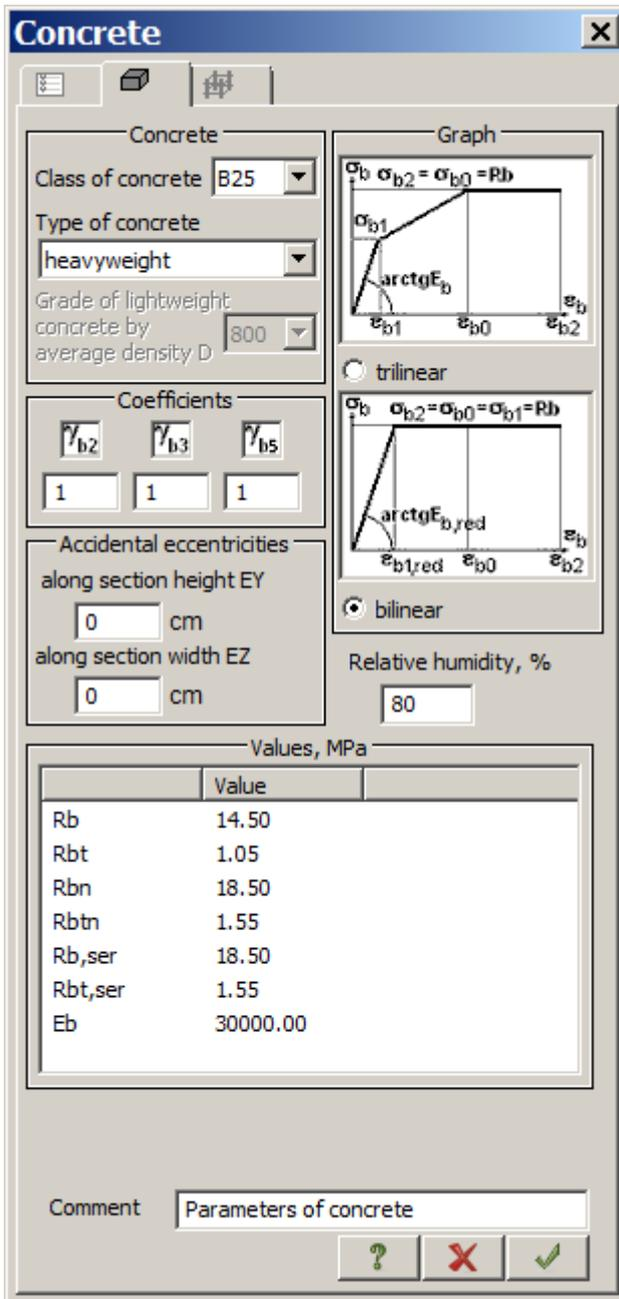

Figure 21.12 Concrete dialog box
- ⇒ In the **Concrete** dialog box (see Fig.21.12), define the following parameters: